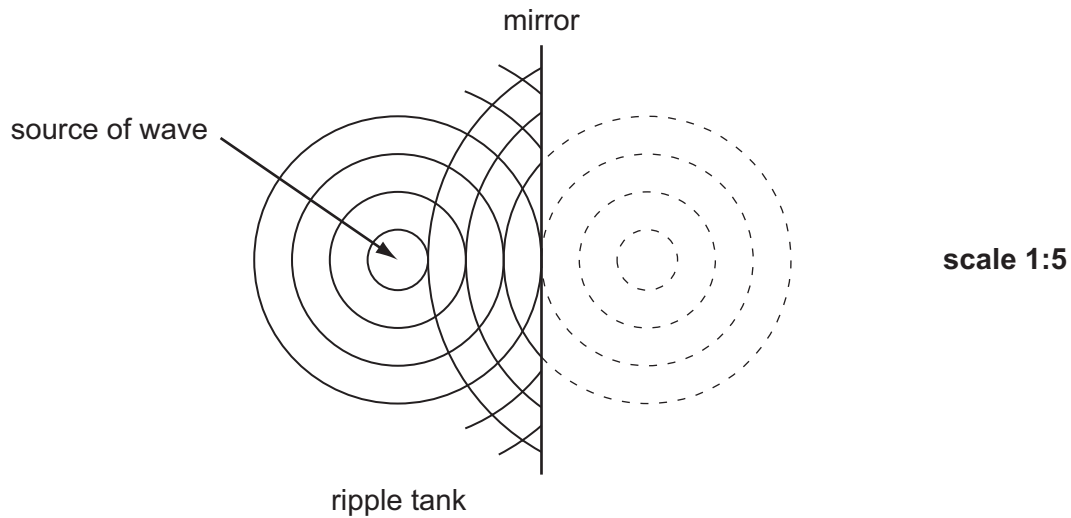

Fig. 3.1
- 3 (a) Fig. 3.1 shows one wave property demonstrated by water waves in a ripple tank. The figure is drawn $\frac{1}{5}$ th full size and the frequency of the waves is 2 Hz.
- (ii) Use Fig. 3.1 to calculate the wavelength of the wave **in the ripple tank**.